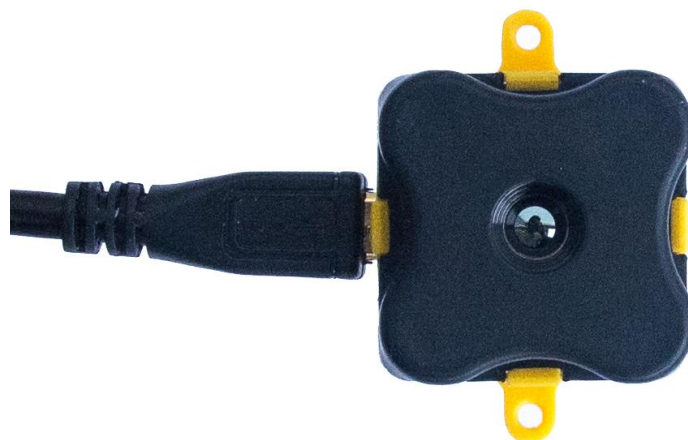

Figure 3. Module orientation for correct thermal image. Evo Thermal 33.
- To obtain a correctly positioned (not inverted or rotated) thermal image, please mount the sensor with the USB or UART connector pointing left (if facing sensor's lens). See Figure 3 for visual instructions. This also applies when hand-testing Evo Thermal via our graphical user interface (see Section 3.1.2.).